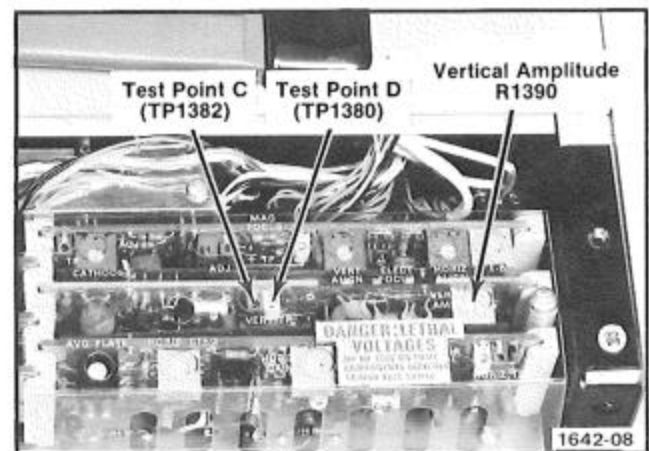

Fig. 5-3. Location of Vertical Oscillator test points and adjustments.
- a. Connect the negative meter lead from the DVM to ground and the positive meter lead to test point C (TP1382) on the Vertical Oscillator Board. See Fig. 5-3.
- d. Connect a X10 probe from the test oscilloscope to test point C (TP1382) on the Vertical Oscillator Board. See Fig. 5-3.
- g. Move the X10 probe from the test point C (TP1382) to test point D (TP1380) on the Vertical Oscillator Board. See Fig. 5-3.